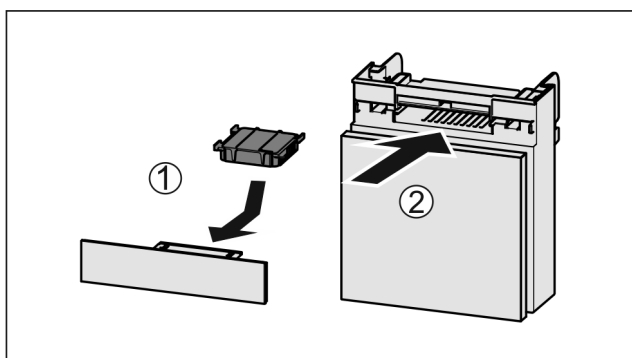

Fig. 133
- Insert the carbon filter as shown in the diagram Fig. 133 (1).
- Push the compartment in Fig. 133 (2).